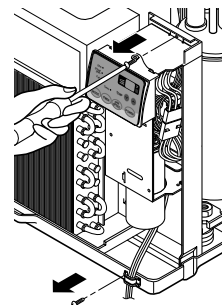

FIG. 3
2. Remove the screw which fasten the control box. (See Fig. 3)
3. Pull the control box from the barrier. (See Fig.3)
7. Re-install the components by referring to the removal procedure. (See Fig. 3)